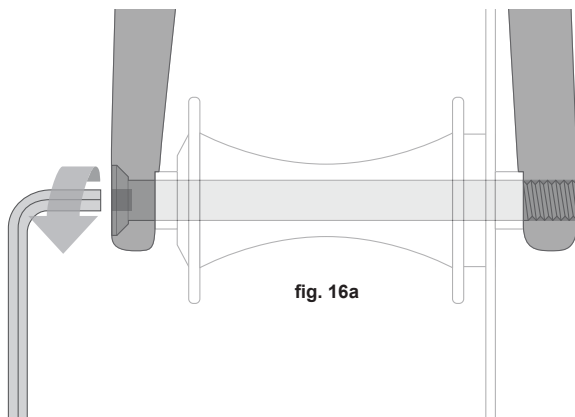
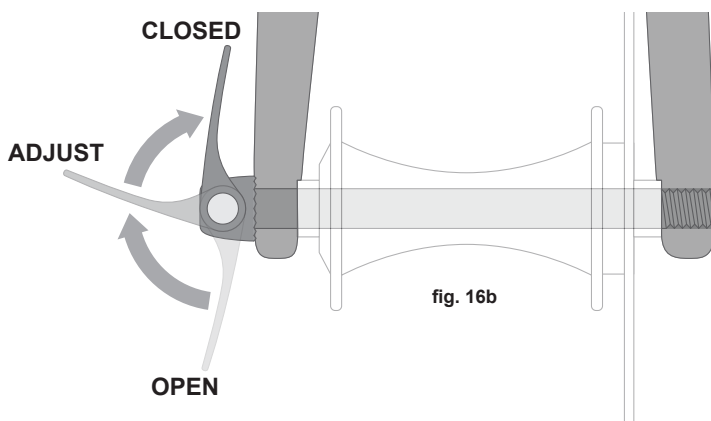

fig. 16a
fig. 16b
a. Adjusting the thru-axle mechanism (fig. 16a & 16b)
The thru-axle is inserted through the unthreaded hole in the frame or fork's dropout, through the wheel hub, and is threaded directly into the opposing dropout by tightening the thru-axle. Common installation methods may use an Allen hex key (fig. 16a) or a cam lever (fig. 16b). Please refer to the manufacturer's instructions for specific information about your thru-axle's operation, including correct torque specifications or lever adjustment information.